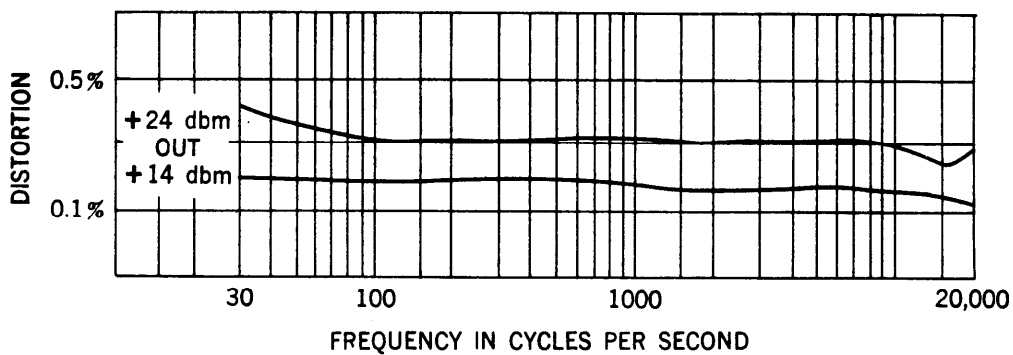

Fig. 7 - Distortion vs Frequency and Output
5.03 Fig. 7 shows the typical harmonic distortion characteristics of the amplifier with frequency for output levels of +14 and +24 dbm.